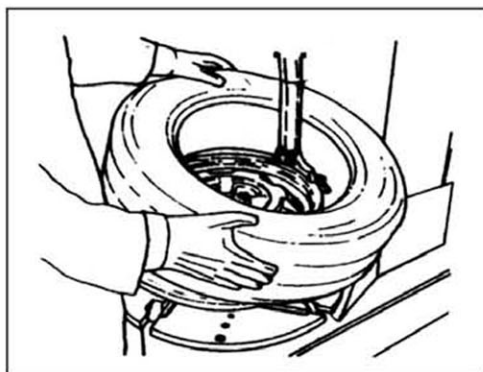

Fig25
4.1.5 Take out the tube and then move up the lower lip to contact with the upper edge of the rim and repeat the step of 4.1.4. Detach another lip (fig25) . Step the column tilt pedal(fig2-11) and the column tilt backwards and at this moment, you can take off the tire.